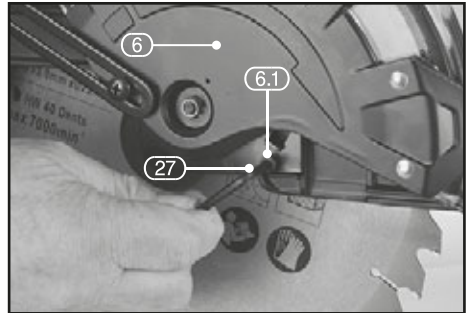
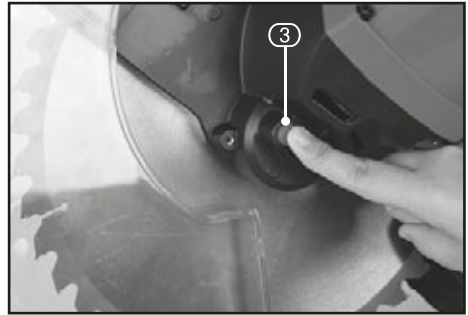

FIG.21
FIG.22
**Stock No.79901 (Fig.21):**
- Rotate the lower guard (6) to the open position.
- Using the hex. key (27), loosen and remove the bolt that secures the front of the lower guard pivot plate (6.1).
**Stock No's.79889 & 79901 (Figs.22 – 25):**
- Press the spindle lock button (3). Rotate the blade until the spindle locks.
- Use the hex. key (27) to loosen and remove the blade bolt (12.1). (Loosen in a clockwise direction as the blade screw has a left hand thread).